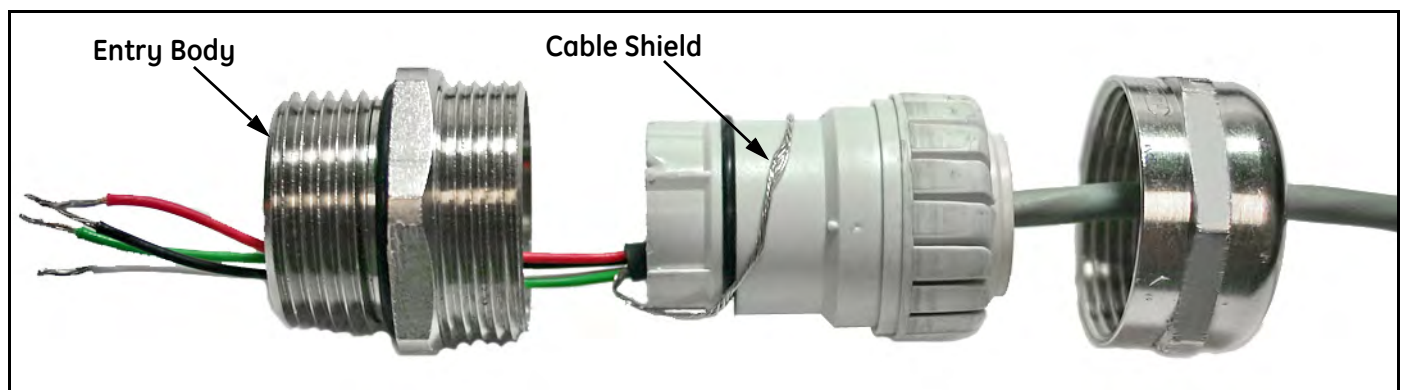

Figure 89: Proper Cable Gland Assembly (GE p/n 419-215)
- b. Route the 4-wire power/analog output cable through the cable gland as shown in *Figure 89* below.
IMPORTANT: *The cable shield must be terminated in the cable gland as shown in *Figure 89* below.*
- b. Route the 3-wire RS232 cable through the cable gland as shown in *Figure 89 on page 99*.
IMPORTANT: *The cable shield must be terminated in the cable gland as shown in Figure 89 on page 99.*